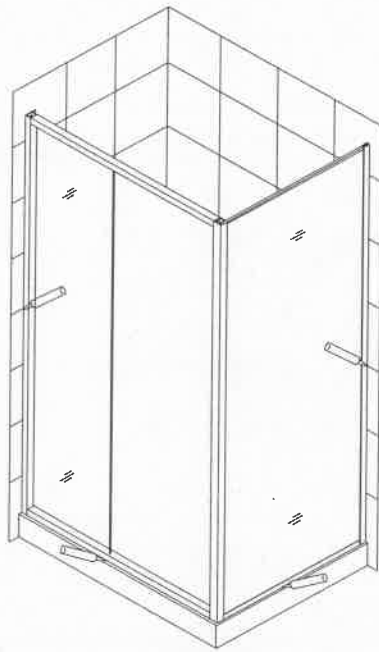

Fig 16
13. Apply the mild silicon caulk on the connection between the enclosure and the tray, and between the enclosure and the wall. See Fig 16 for details.